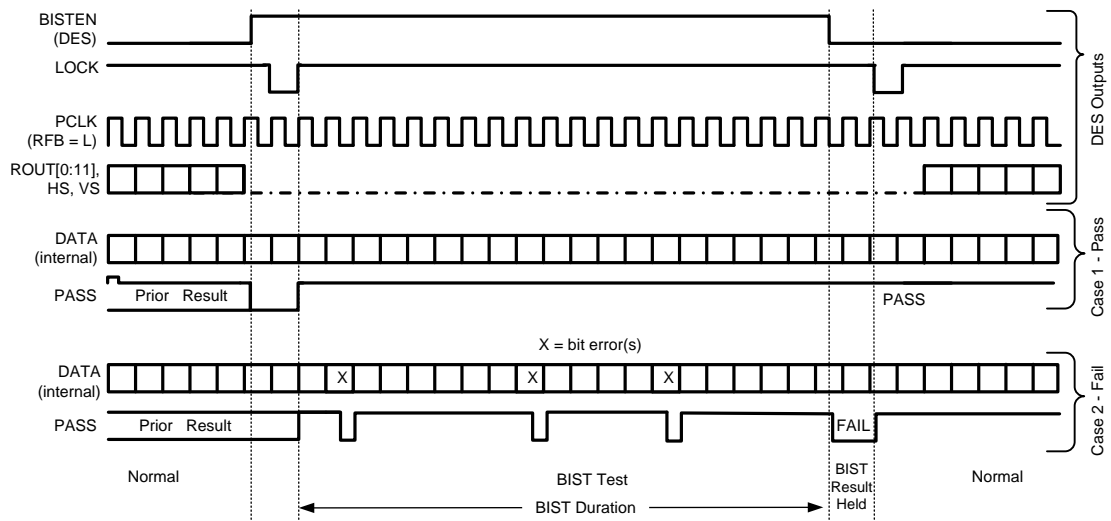

Figure 20. BIST Timing Diagram
- **Step 4:** The link returns to normal operation after the deserializer BISTEN pin is low. Figure 20 shows the waveform diagram of a typical BIST test for two cases. Case 1 is error free, and Case 2 shows one with multiple errors. In most cases, it is difficult to generate errors due to the robustness of the link (differential data transmission, etc.); thus, they may be introduced by greatly extending the cable length, faulting the interconnect, or by reducing signal condition enhancements (Rx equalization).